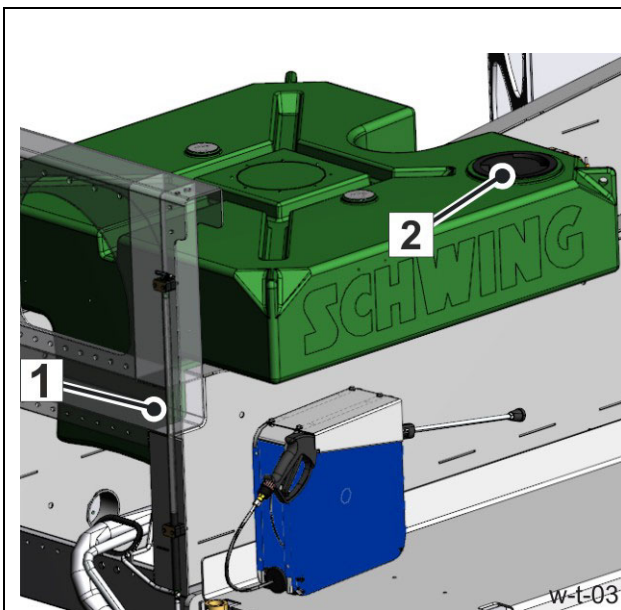

Fig. 46 Example: Water case
1. Check the filling level of the water case on the level indicator, e.g., (1) (Fig. 46) at the rear of the machine.
2. Fill clean water through the filling neck, e.g., (2) (**Fig. 46**) on the top of the reservoir.
1. Remove the filling cap (2) (**Fig. 46**) on the top of the water case.
Fill the water case (**Fig. 46**) using a water hose via the above filler cap if safe filling via the water connection (12) is not possible.